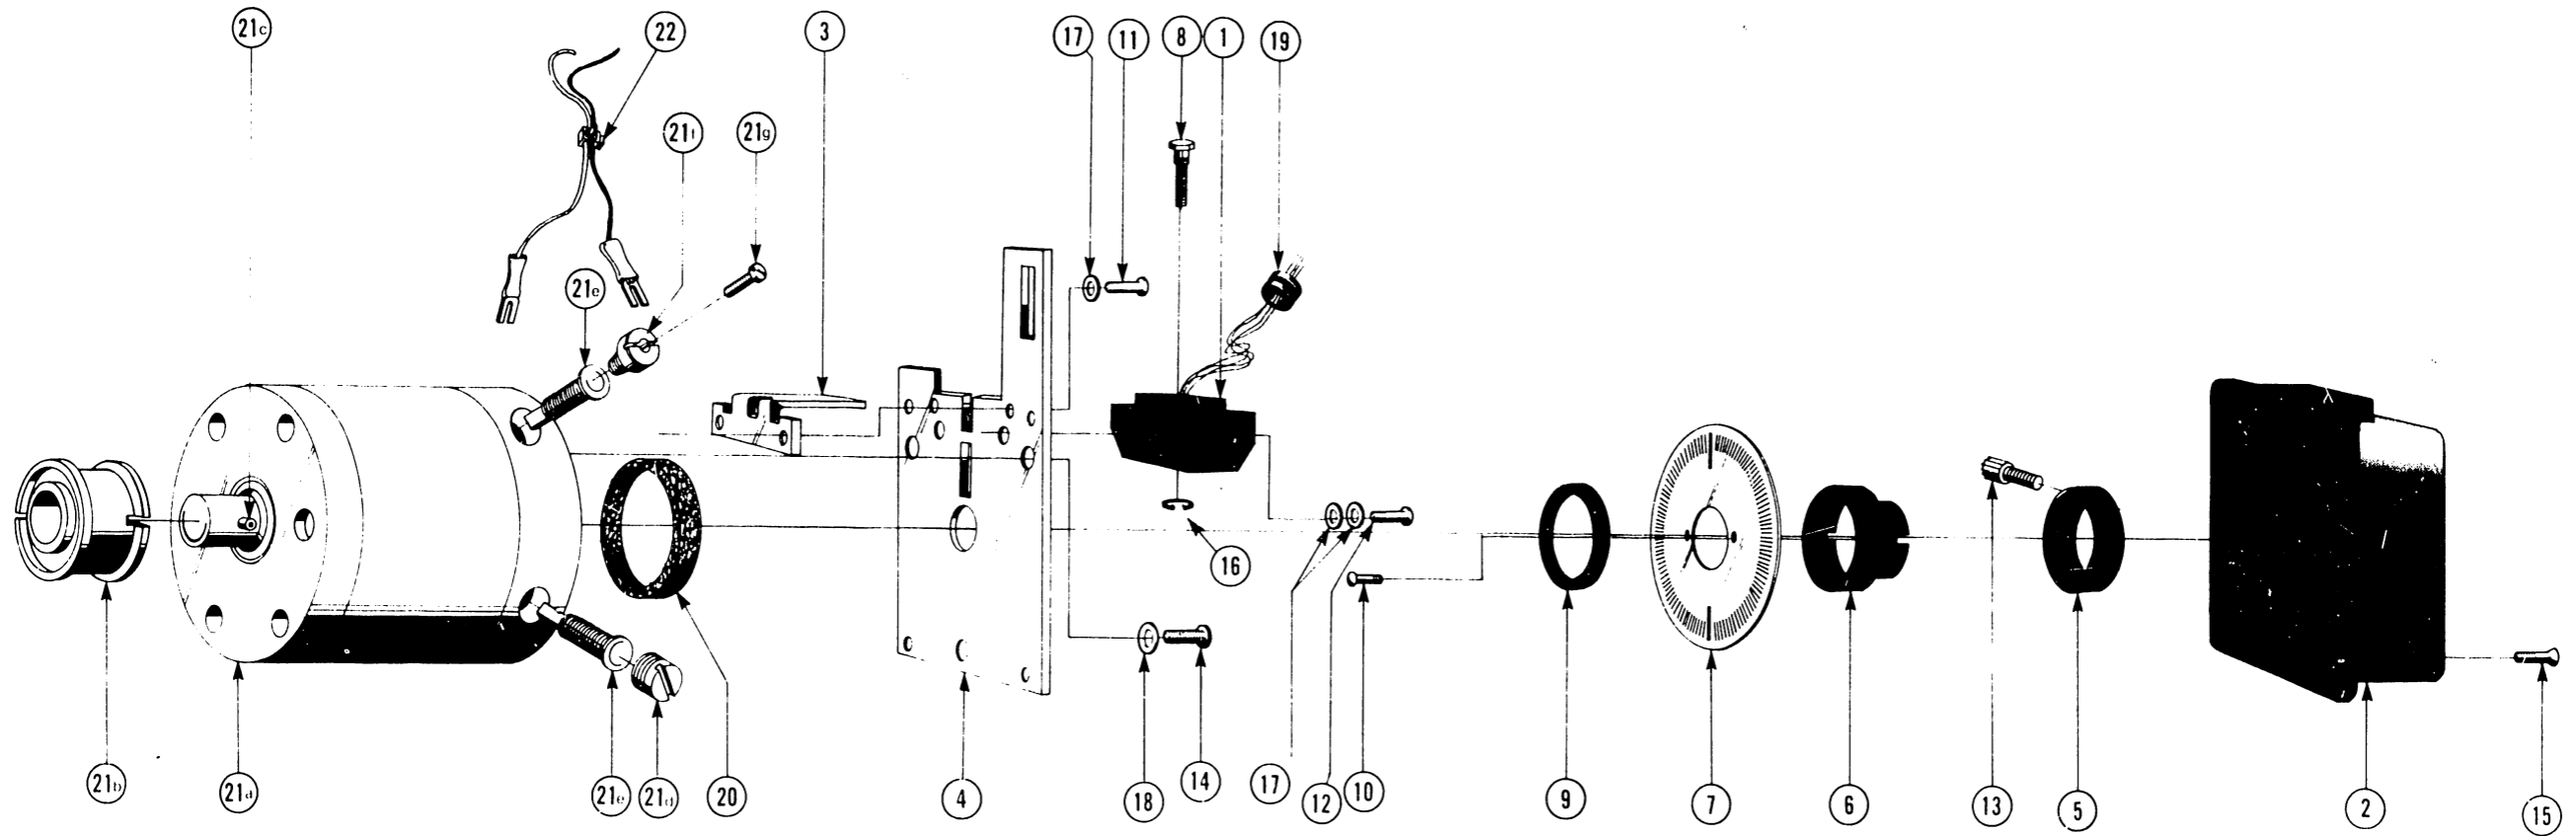

FIGURE 9-6 CARRIAGE DRIVE MOTOR ASSEMBLY
9.3.5 CARRIAGE DRIVE MOTOR ASSEMBLY (SEE FIGURE 9-6)